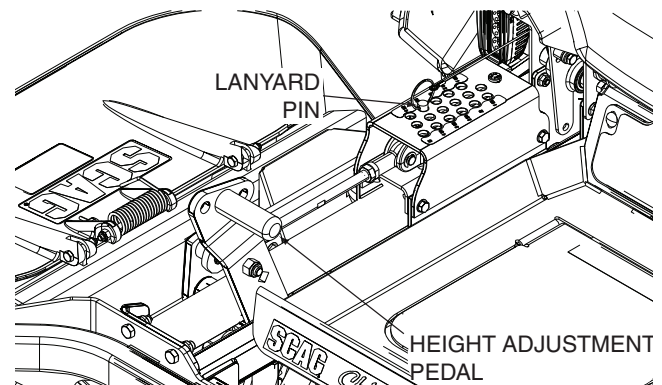
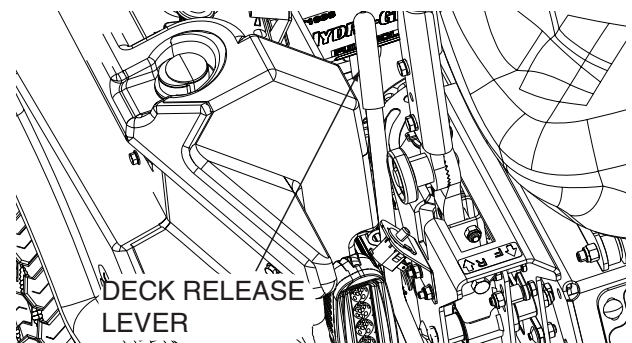

Figure 4-6. Adjusting Cutting Height
Figure 4-7. Deck Release Lever
2. Push the cutting height adjustment foot pedal all the way forward using your right foot until it locks in place. See Figure 4-6.
3. Insert the lanyard pin into the cutting height index at the desired cutting height. Push forward on the deck lift foot lever, hold in place and pull back on the deck release lever. See Figure 4-7. Slowly release the foot pedal. A deck height decal is located on the cutting height index as an aid in adjusting the deck to the desired height. See Figure 4-6.